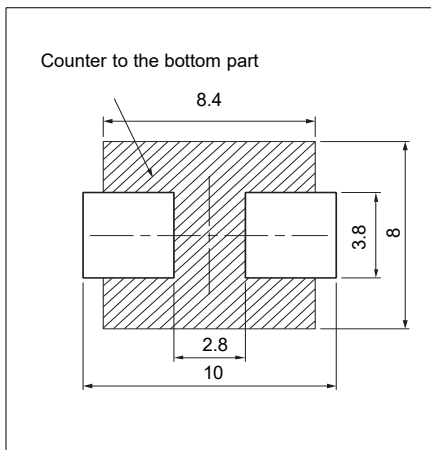
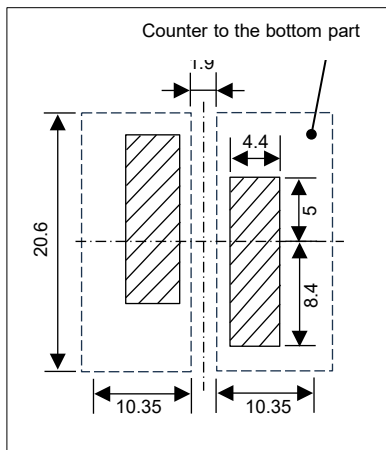

Fig.1
Fig.2
- Do not form a pattern, via, etc., on the counter to the bottom of the inductor. (MC series/* Fig.1, Dust type/*Fig.2)